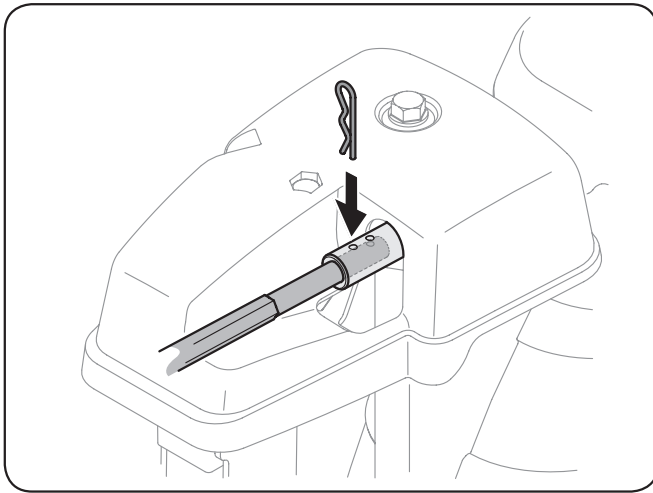

Figure 6-6
2. Pull out the chute control rod until the hole in it lines up with the second hole in the chute control assembly. See Fig. 6-6.
3. Reinsert the cotter pin through this hole and the chute control rod. See Fig. 6-6.